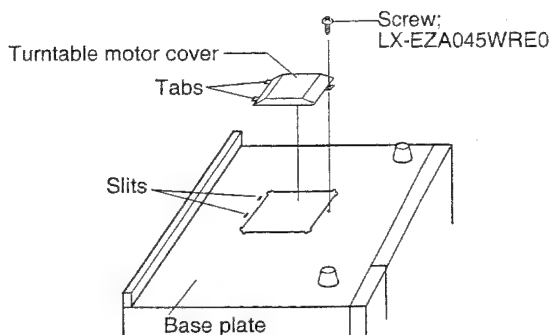

Figure C-2(b). Turntable motor cover re-install
5. Re-install the turntable motor cover to the base plate with the screw (LX-EZA045WRE0) as shown in Figure C-2(b).